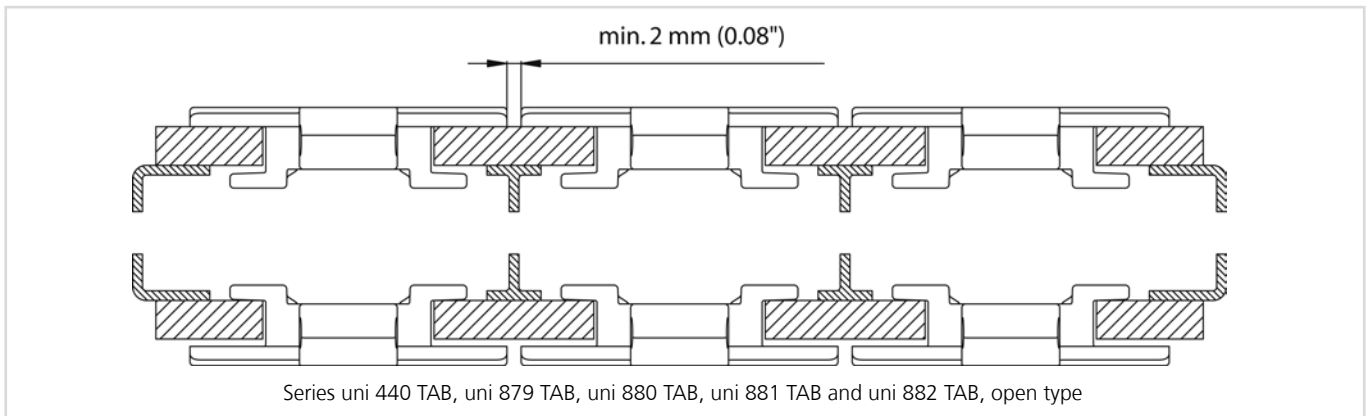
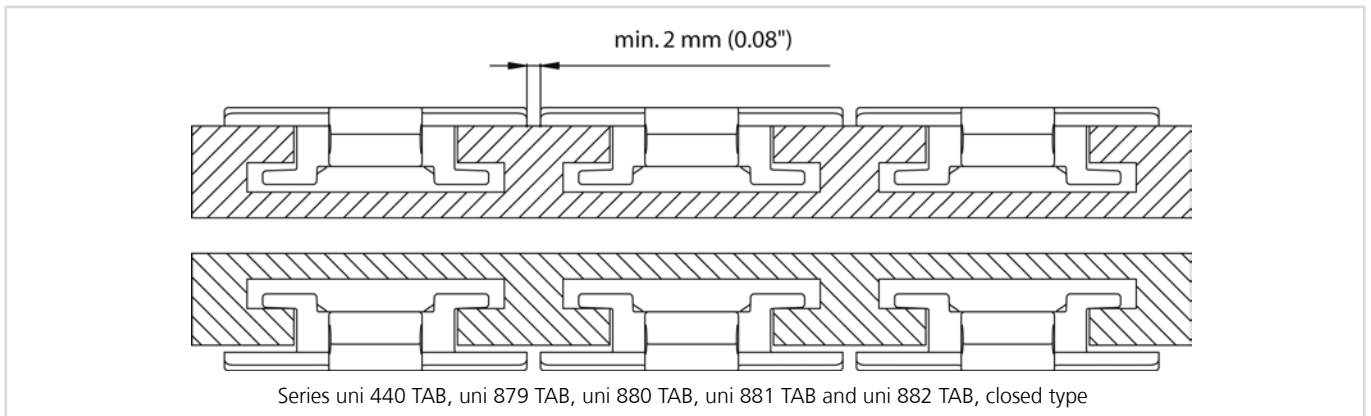
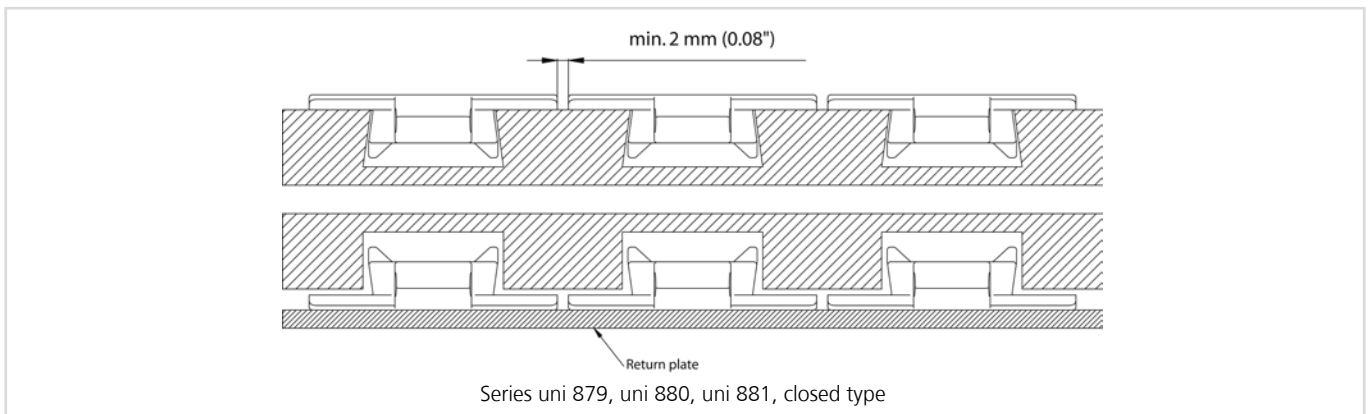

Figure 3-56
Figure 3-57
Figure 3-58
- Minimum distance between chains on carry and return is min. 2 mm (0.08 in.). Figure 3-56, figure 3-57 and figure 3-58.